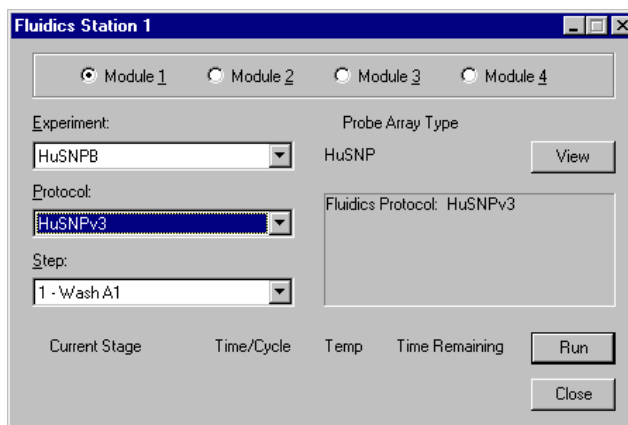

Figure 4.8 Fluidics Station dialog box, disk files mode.
1. In the Fluidics Station dialog box (Figure 4.8), select the current fluidics station **Module**.